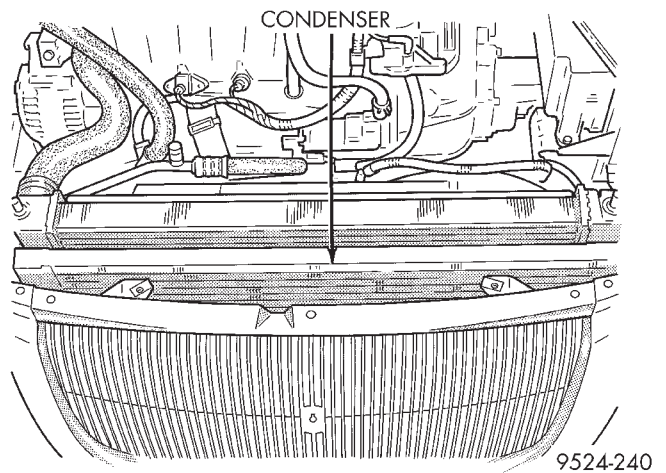

Fig. 28 Condenser Removal
- (9) Lift condenser from vehicle (Fig. 28).